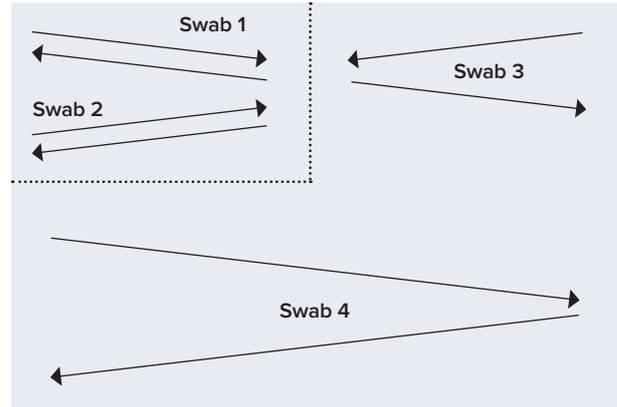
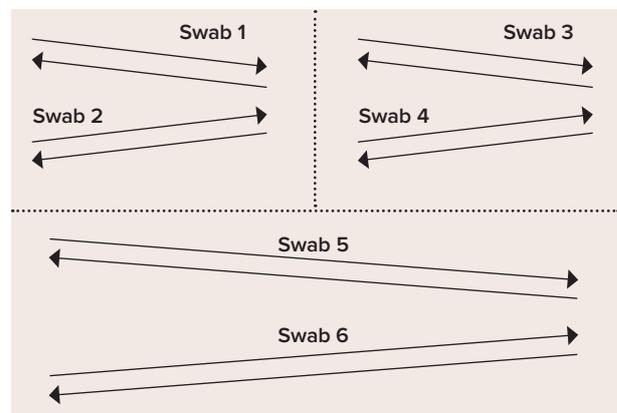

Figure A6 – Swabbing procedure for fully slatted sheds with two pens
Figure A7 – Swabbing procedure for fully slatted sheds with three pens
- Each swab is to be held by the string and dragged twice the full length of each pen over different areas of slats in the patterns described in Figure A6 (two pens) and Figure A7 (three pens).